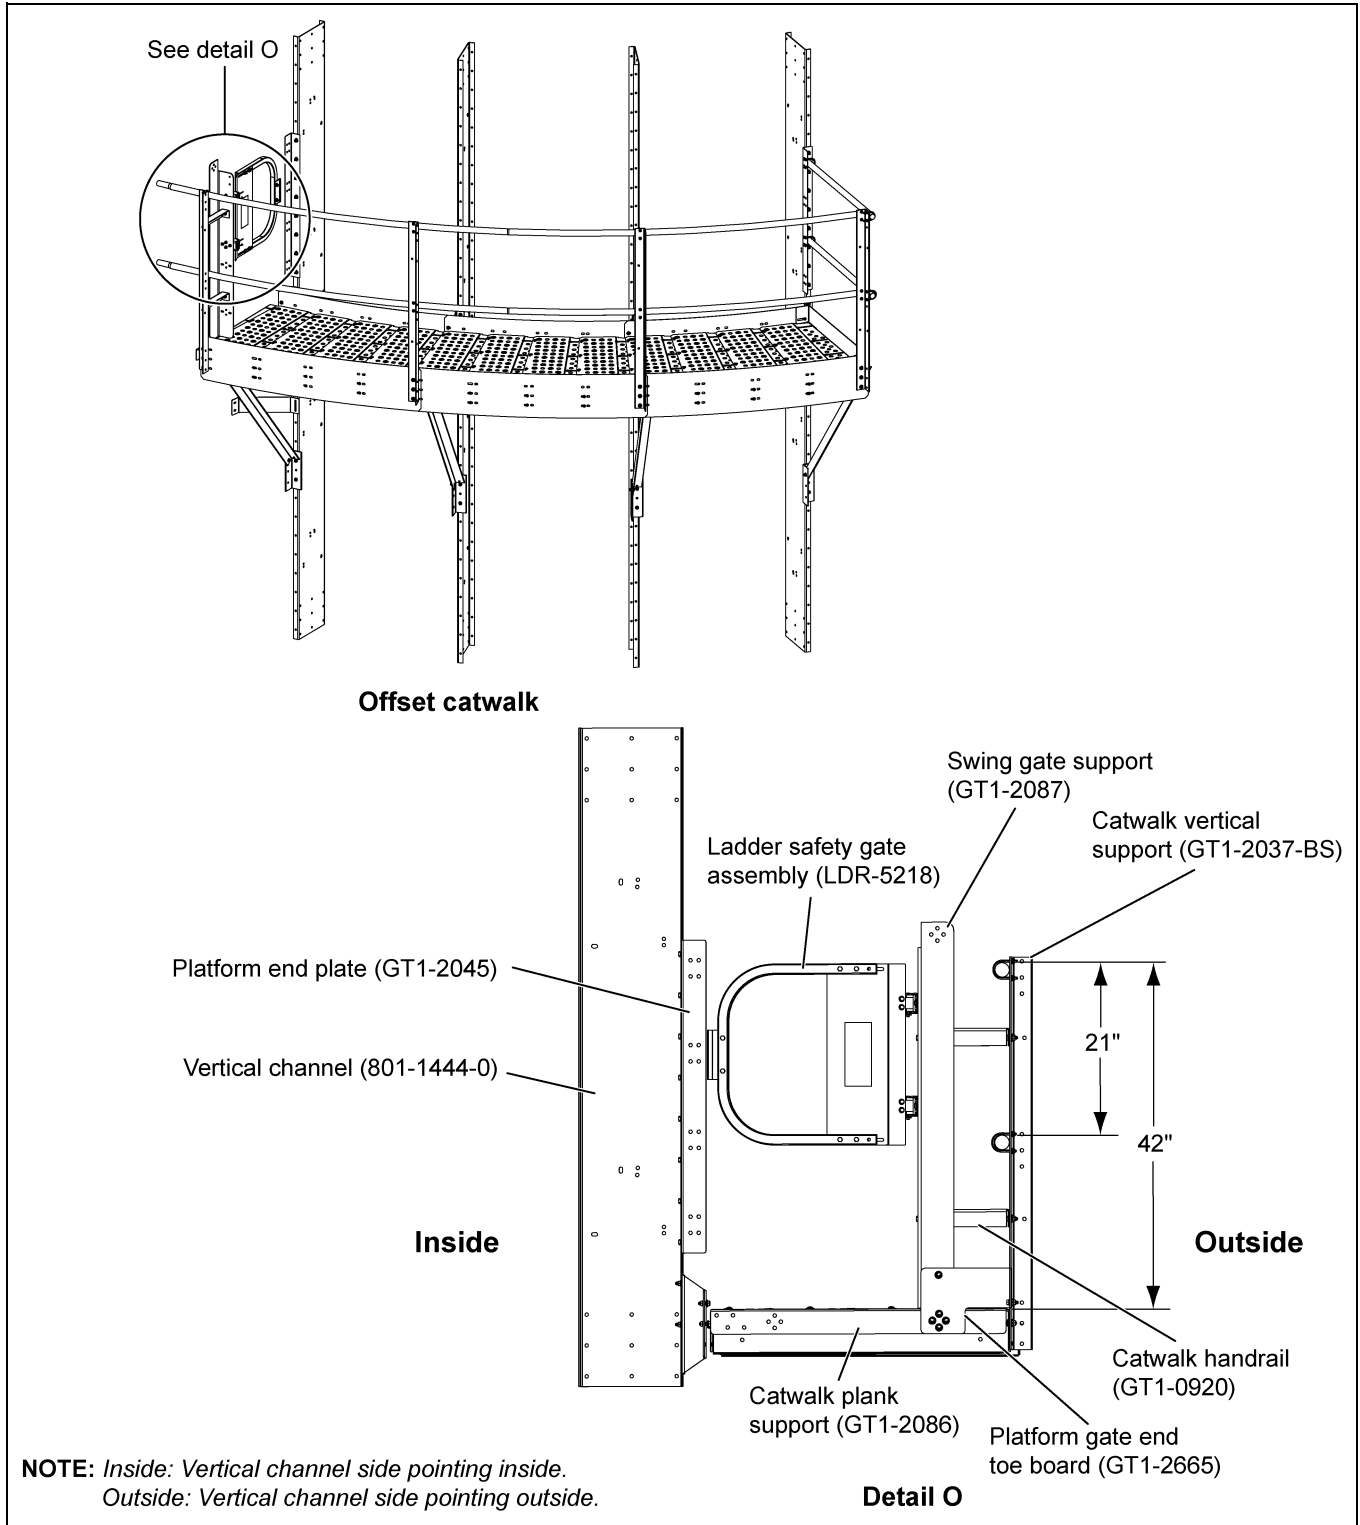

Figure 6Y Offset Ladder Safety Gate Assembly to Swing Gate Support (GT1-2087)
1. Install the ladder safety gate assembly (LDR-5218) to the swing gate support (GT1-2087) using 3/8"-16 x 1" JS grade 8 or grade 8.2 bolts (S-7485) and 3/8"-16 ZN grade 5 nuts (S-968). The distance between the plank and handrail is 42". (See Figure 6Y.)